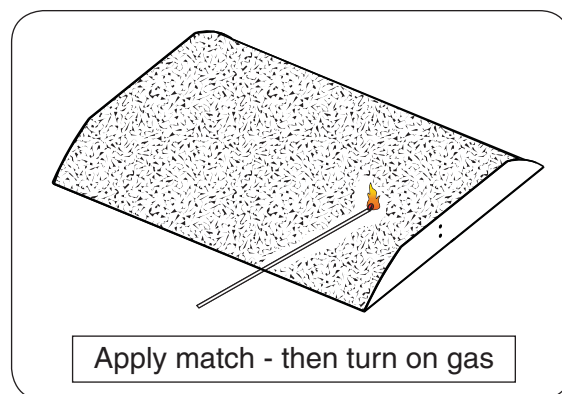

Fig. 15-1
3. Lay a lighted match on the surface of the decorative media near the burner (**do not hold the match in your hand**) or use a lighted long-stem match/long-necked butane lighter (Fig. 15-1).